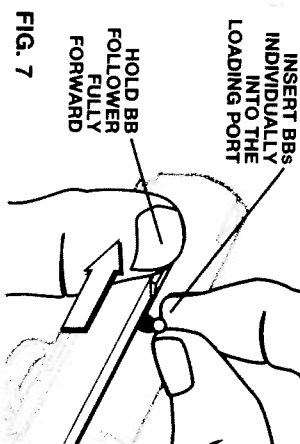

FIG. 7
3. Once the Magazine BB follower is held fully forward, a maximum of 15 .177 caliber BBS can be individually inserted into the Magazine Loading Port as shown. (see Fig. 7)